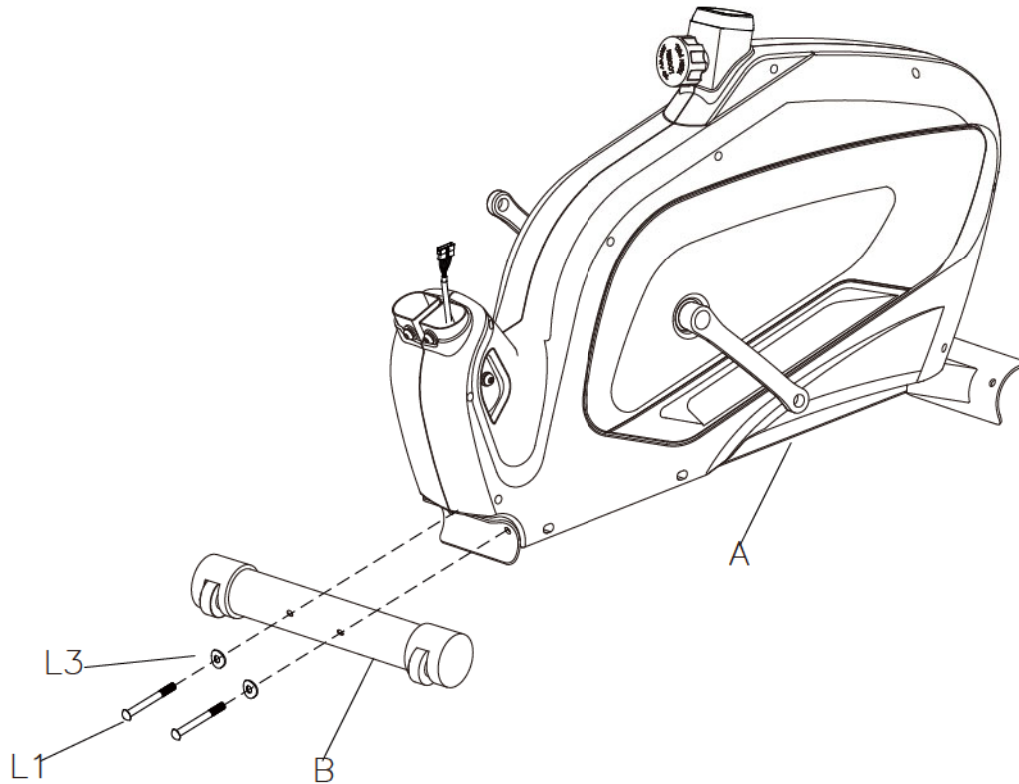

FIGURE 2
** After you finish assembly (Figure 1 & Figure 2), if the machine is NOT stable, please adjust the knob of (C1).